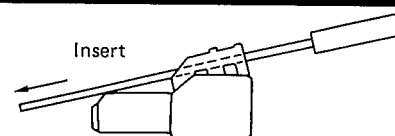

Fig. 1
1. Run wires through insertion holes of plug (Fig. 1)